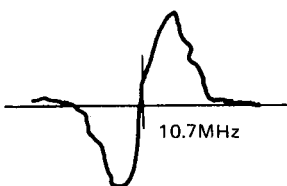

Fig. 23
- Adjust L804 to obtain maximum gain and also for symmetrize to left and right on S curve characteristics. (Fig. 23)